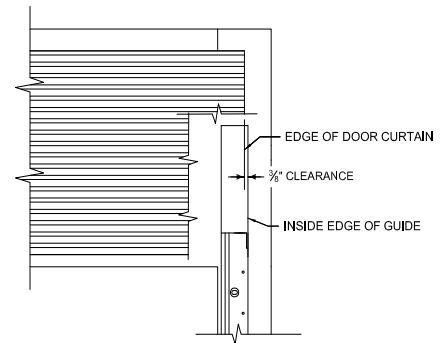
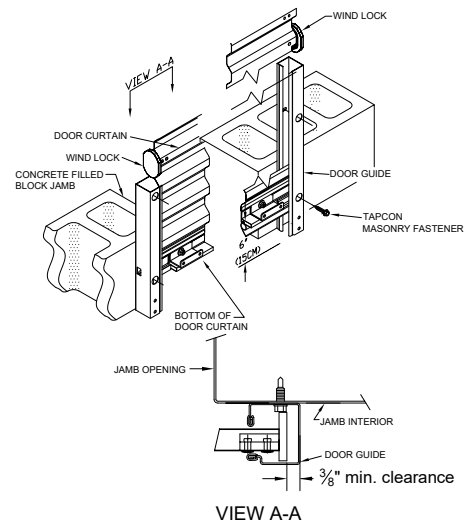

Figure 11.
Figure 12.
7.3 Position the guides against the jambs according to the clearance shown in Figure 11 (Figure 12 if windlock model). Loosely fasten the top of each guide to the door jamb. This will allow slight adjustment of the guides as the door installation is completed. **DO NOT** install the remaining fasteners until such time as the adjustment is true. Level one guide and loosely install a second fastener in the bottom hole. Masonry fasteners not supplied.
For windlocked doors, this is a critical adjustment for the door to operate correctly. Operate the door fully up and down multiple times and if any binding or scraping noises are heard, adjust the door guides to eliminate the binding. Review Fig 11, VA-A for proper windlock clearance.